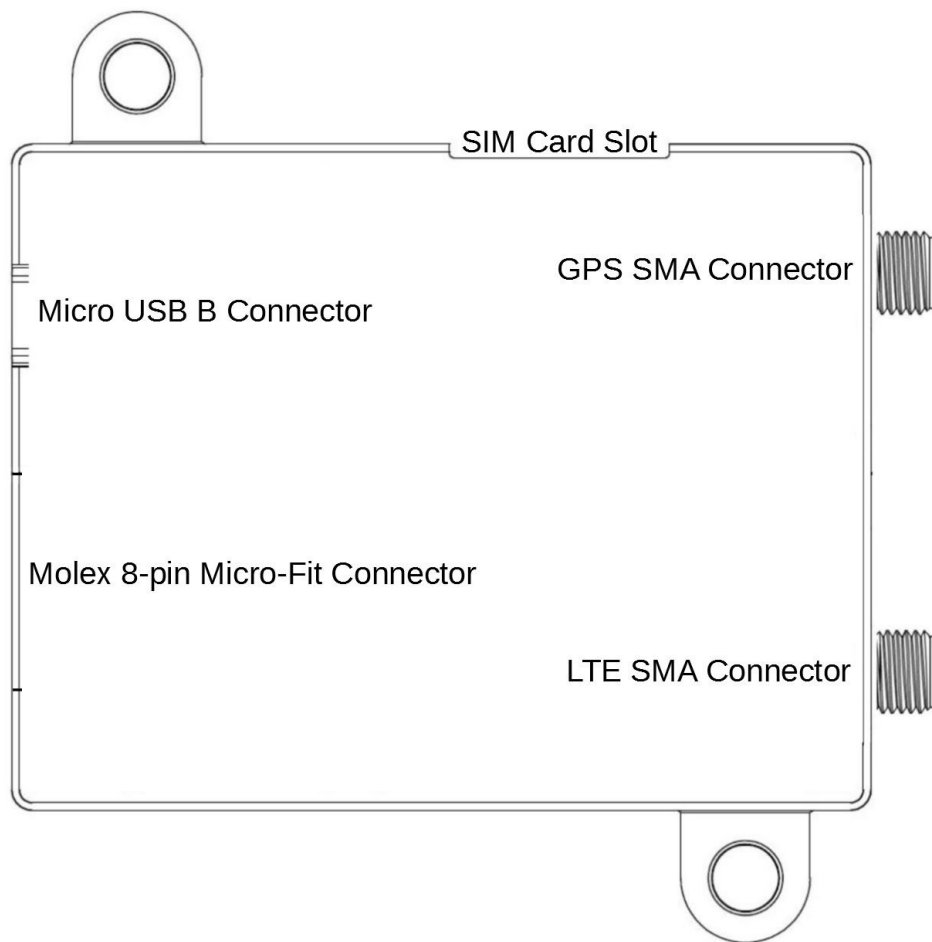

Figure 4: The location of the CellBox connections as seen from above
- 3)** For GPS use, connect an SMA compatible antenna to the GPS SMA connector. Note: For GPS use, the set up does not require the LTE antenna(s). The connector is shown in Figure 4.